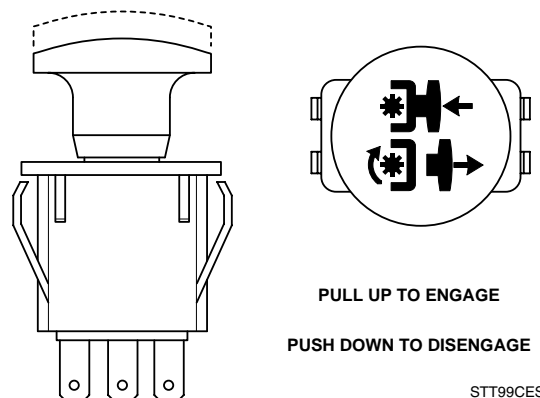

Figure 4-3 Cutter Engage Switch
2. Engage the deck drive by pulling up on the yellow switch, located on the instrument panel, (Figure 4-3) to the engage position.